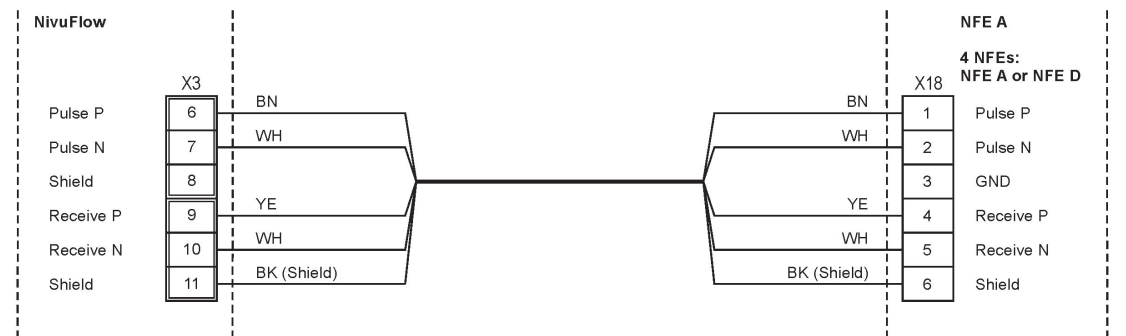

Fig. 18-10 Connection signal transmission NivuFlow - NFE
- Signal cable from NFE A according to Fig. 18-10 to connection X3 (clamps 6...11) of transmitter